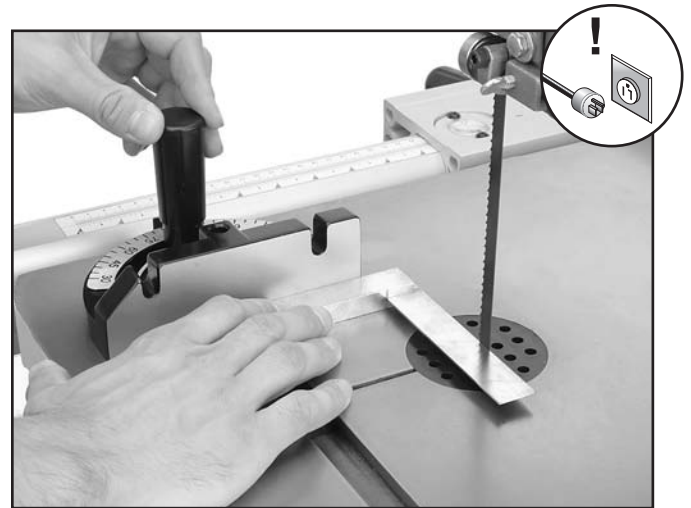

Figure 28. Squaring miter gauge to blade.
1. Place one edge of a machinist's square against the face of the miter gauge and the other side against the blade face, as shown in **Figure 28**.